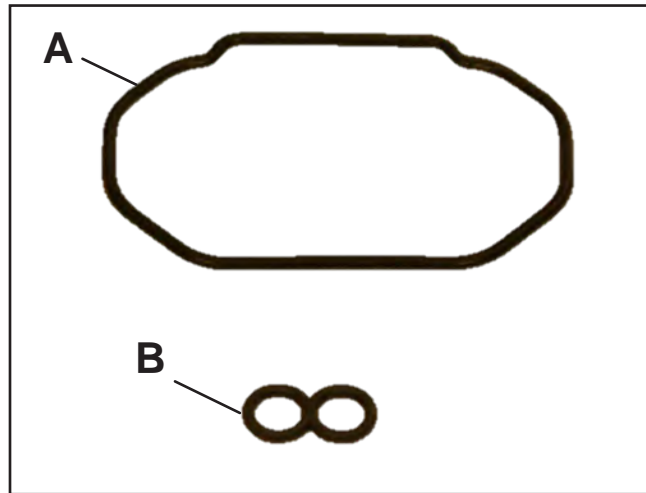

Figure 38
1. Install a new o-ring gasket in the float bowl for the main nozzle (Figure 38).